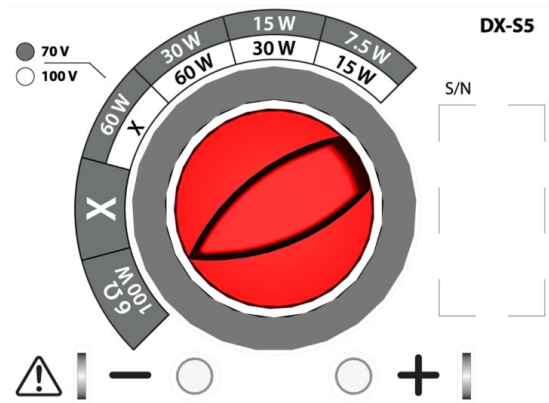

Figure 11. Rotate tap switch
10. Rotate the tap switch knob to the desired setting before you attach the ClickPlug to the loudspeaker. (Figure 11).